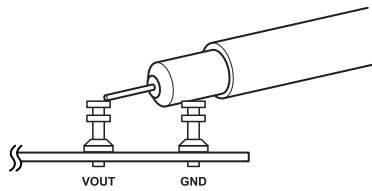

Figure 6. Technique for Measuring the Output Ripple and the Step Response with a Scope Probe
8. Connect an oscilloscope voltage probe as shown in Figure 6 or Figure 7.